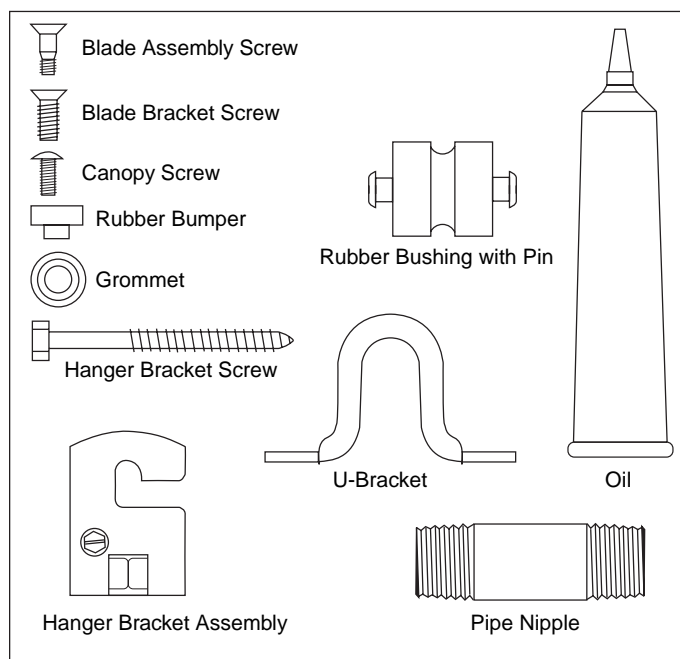

Figure 2 - Checking the sack parts
- B. Check the sack parts. Refer to Figure 2.